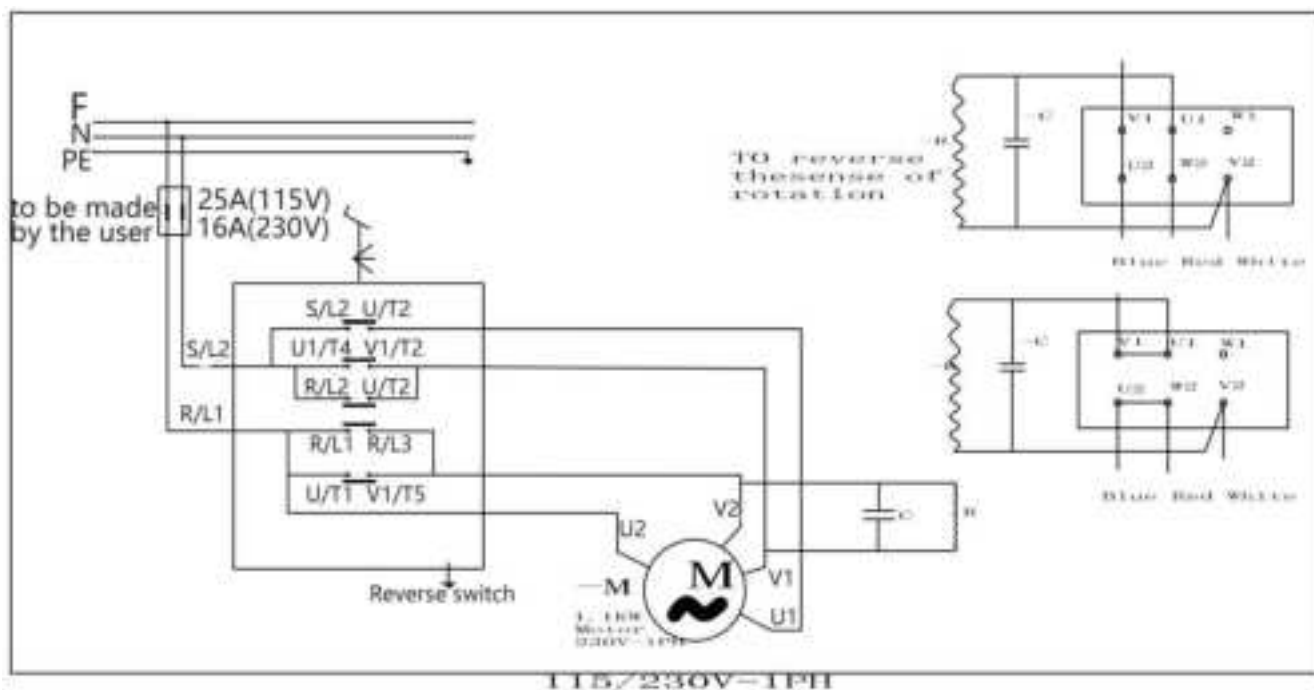

Fig 26
3. Press the tyre to the center of the rim's channel with the tyre pressing head (upper), and press the tyre under the mounting head with the roller on the right arm. Rotate the turntable until the mounting procedure is finished.(Fig 26)